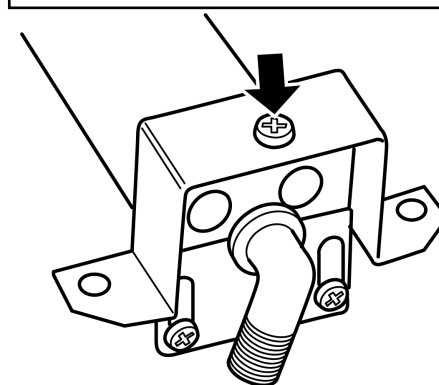

Figure 33. Main burner injector removal
(See figure 33).
2. Remove the burner clamping screw (See figure 33).